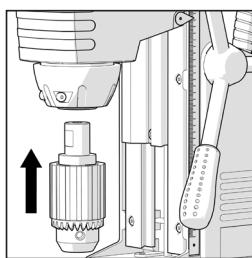

Fig. 11
- Align the two flats on the chuck adaptor with one of the screws in the spindle. (**Fig. 11**)
(6) MAINTENANCE